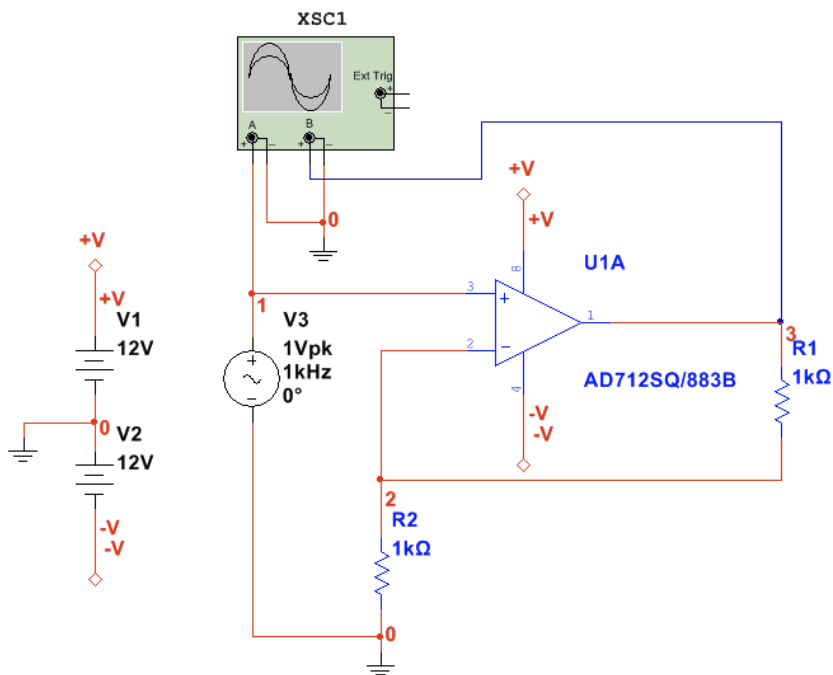

Figure 8. Connecting the Oscilloscope to the schematic.
5. Select a shade of blue and click the **OK** button. The schematic should look like Figure 8.